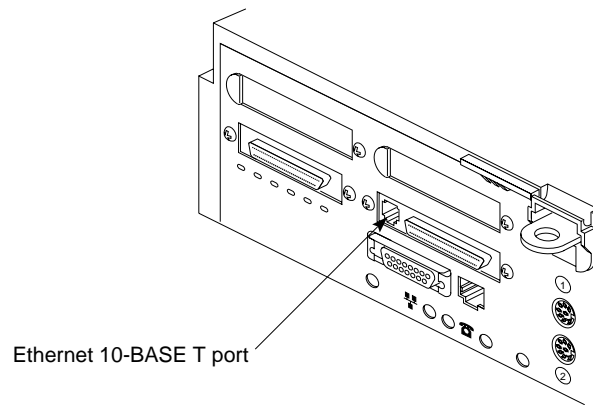

Figure 3-5 Connecting an Ethernet 10-BASE T Cable to the Challenge S Server
2. Plug one end of the cable into the port in between the two SCSI connectors on the back of the Challenge S server, as shown in Figure 3-5. Note that the Ethernet 10-BASE T and the ISDN port below it look similar. The Ethernet 10-BASE T port is the one on top, immediately next to the SCSI connector, as shown below.